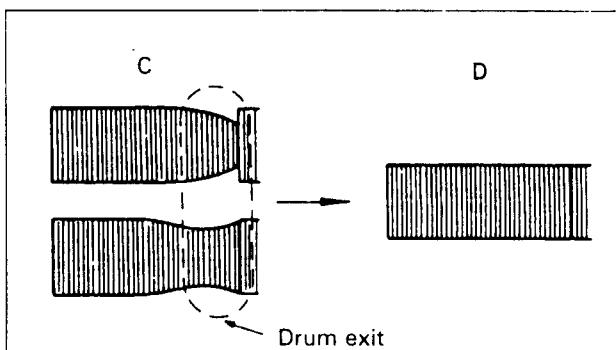

Fig. 3-7
- (1) In the same way as conducted in the "Drum entrance side", adjust the waveform by turning the take-up guide roller. If waveforms as shown in Figure 3-7 are obtained, adjust the take-up guide roller until the flat response is obtained as shown in D.